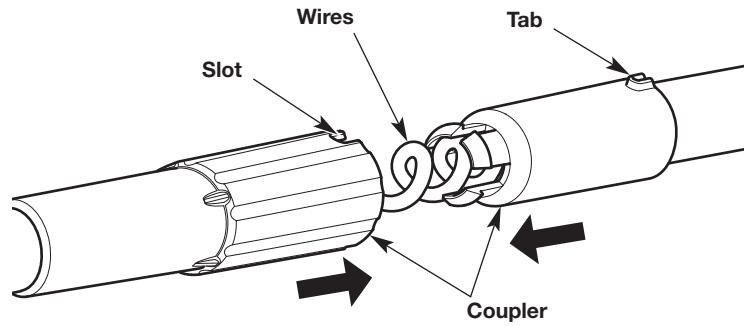

Fig. 1
1. Unfold the pole and align the two ends. Do not twist or pinch the exposed wires (Fig. 1).
2. Align the tab on one end of the coupler with the slot on the other end (Fig. 1).